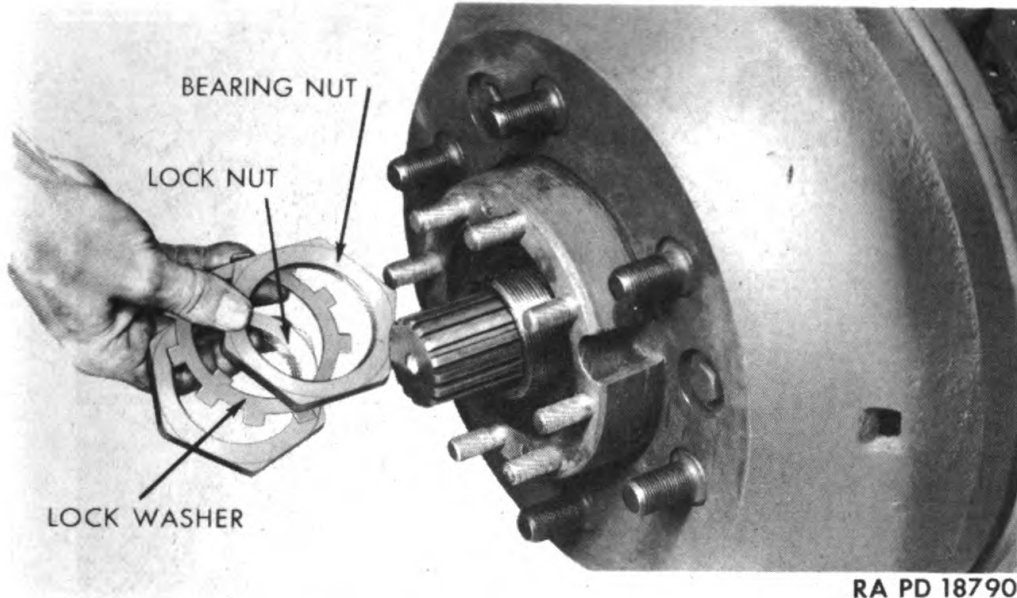

Figure 24 — Removing Wheel Bearing Nuts
b. **Remove Wheel Hub and Brake Drum.** Straighten locking tab on bearing nut lock washer. Remove bearing outer lock nut, and bearing adjusting nut (fig. 24). Remove outer wheel bearing from hub, and lift hub and drum from spindle. Remove inner bearing from spindle.